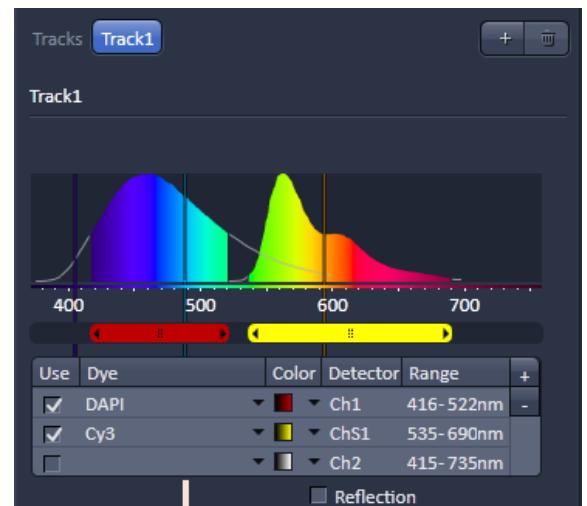

Fig. 18 Detection bands and laser lines display
- For the configuration of the beam path, please refer to the application-specific configurations depending on the used dyes and markers and the existing instrument configuration (Fig. 18).
- The Detection Bands & Laser Lines are displayed in a spectral panel (Fig. 18) to visualize the activated laser lines for excitation (vertical lines) and activated detection channels (colored horizontal bars).